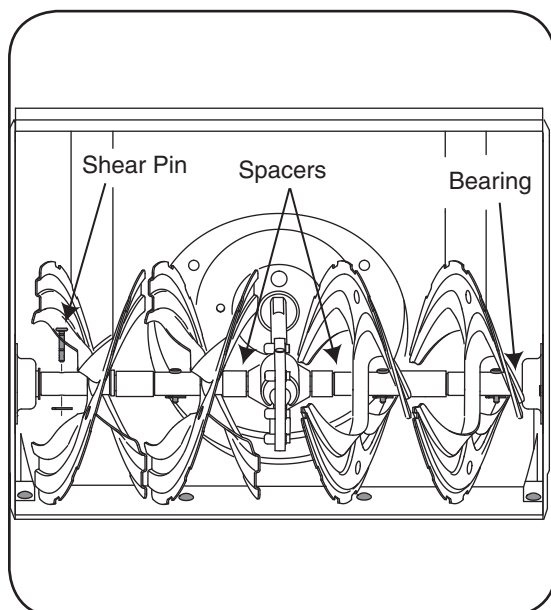

Figure 18
5. **Auger Shaft:** At least once a season, remove the shear pins on auger shaft. Spray lubricant inside shaft, around the spacers. Also lubricate the flange bearings found at either end of the shaft. See Figure 18.